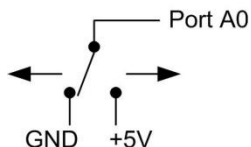

Figure 8. Schematic showing switch detection by digital channel Port A0
Refer to the schematic shown in Figure 8. If the switch is set to the +5 V input, Port A0 reads *TRUE* (1). If you move the switch to GND, Port A0 reads *FALSE*.